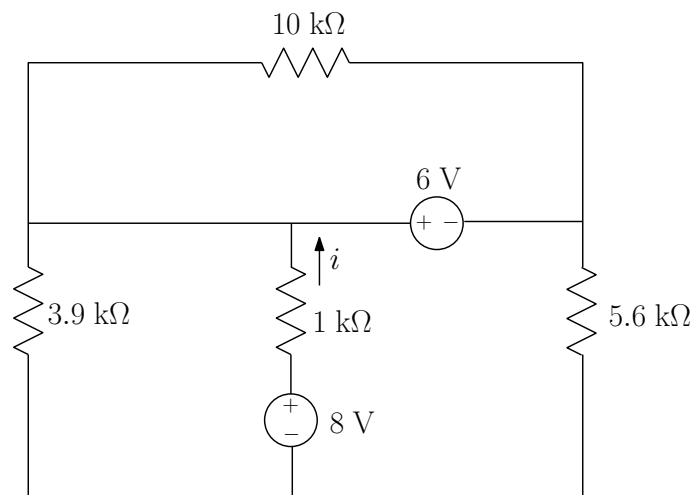

Figure 3.4: Superposition circuit with $V_1 = 8\text{ V}$ and $V_2 = 6\text{ V}$.
- Try this new tool to solve the circuit: use superposition to find currents and voltages for the $1\text{ k}\Omega$ and $3.9\text{ k}\Omega$ resistors in Figure 3.4, taking the bottom source as V_1 and the upper source as V_2 (solve in terms of V_1 and V_2 .)
1. With the power supply off, build the circuit shown in Figure 3.4.